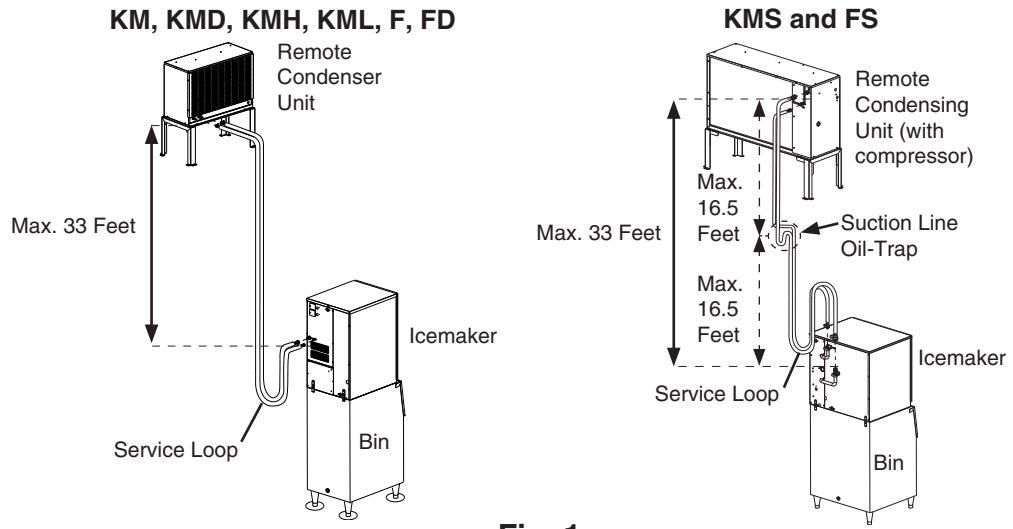

Fig. 1
- **KMS and FS Units:** If the vertical distance between the SRK or SRC remote condensing unit and the icemaker is greater than 20 feet (not to exceed 33 feet), an oil-trap (5/8" OD tubing) must be installed in the suction line. The oil-trap must be located halfway between the icemaker and remote condensing unit. This ensures sufficient oil return to the compressor. See Fig. 1.
1. Route the appropriate factory line set. See the tables in "1. Line Set." Factory line sets are precharged and do not need to be evacuated. If the line set is too long or too short, see "2a. Factory Line Set Modification." Leave a service loop behind the icemaker to allow the icemaker to be pulled out for service. See Fig. 1.
1. Route the appropriate size tubing. See the tables in "1. Line Set." Leave a service loop behind the icemaker to allow the icemaker to be pulled out for service. See Fig. 1.